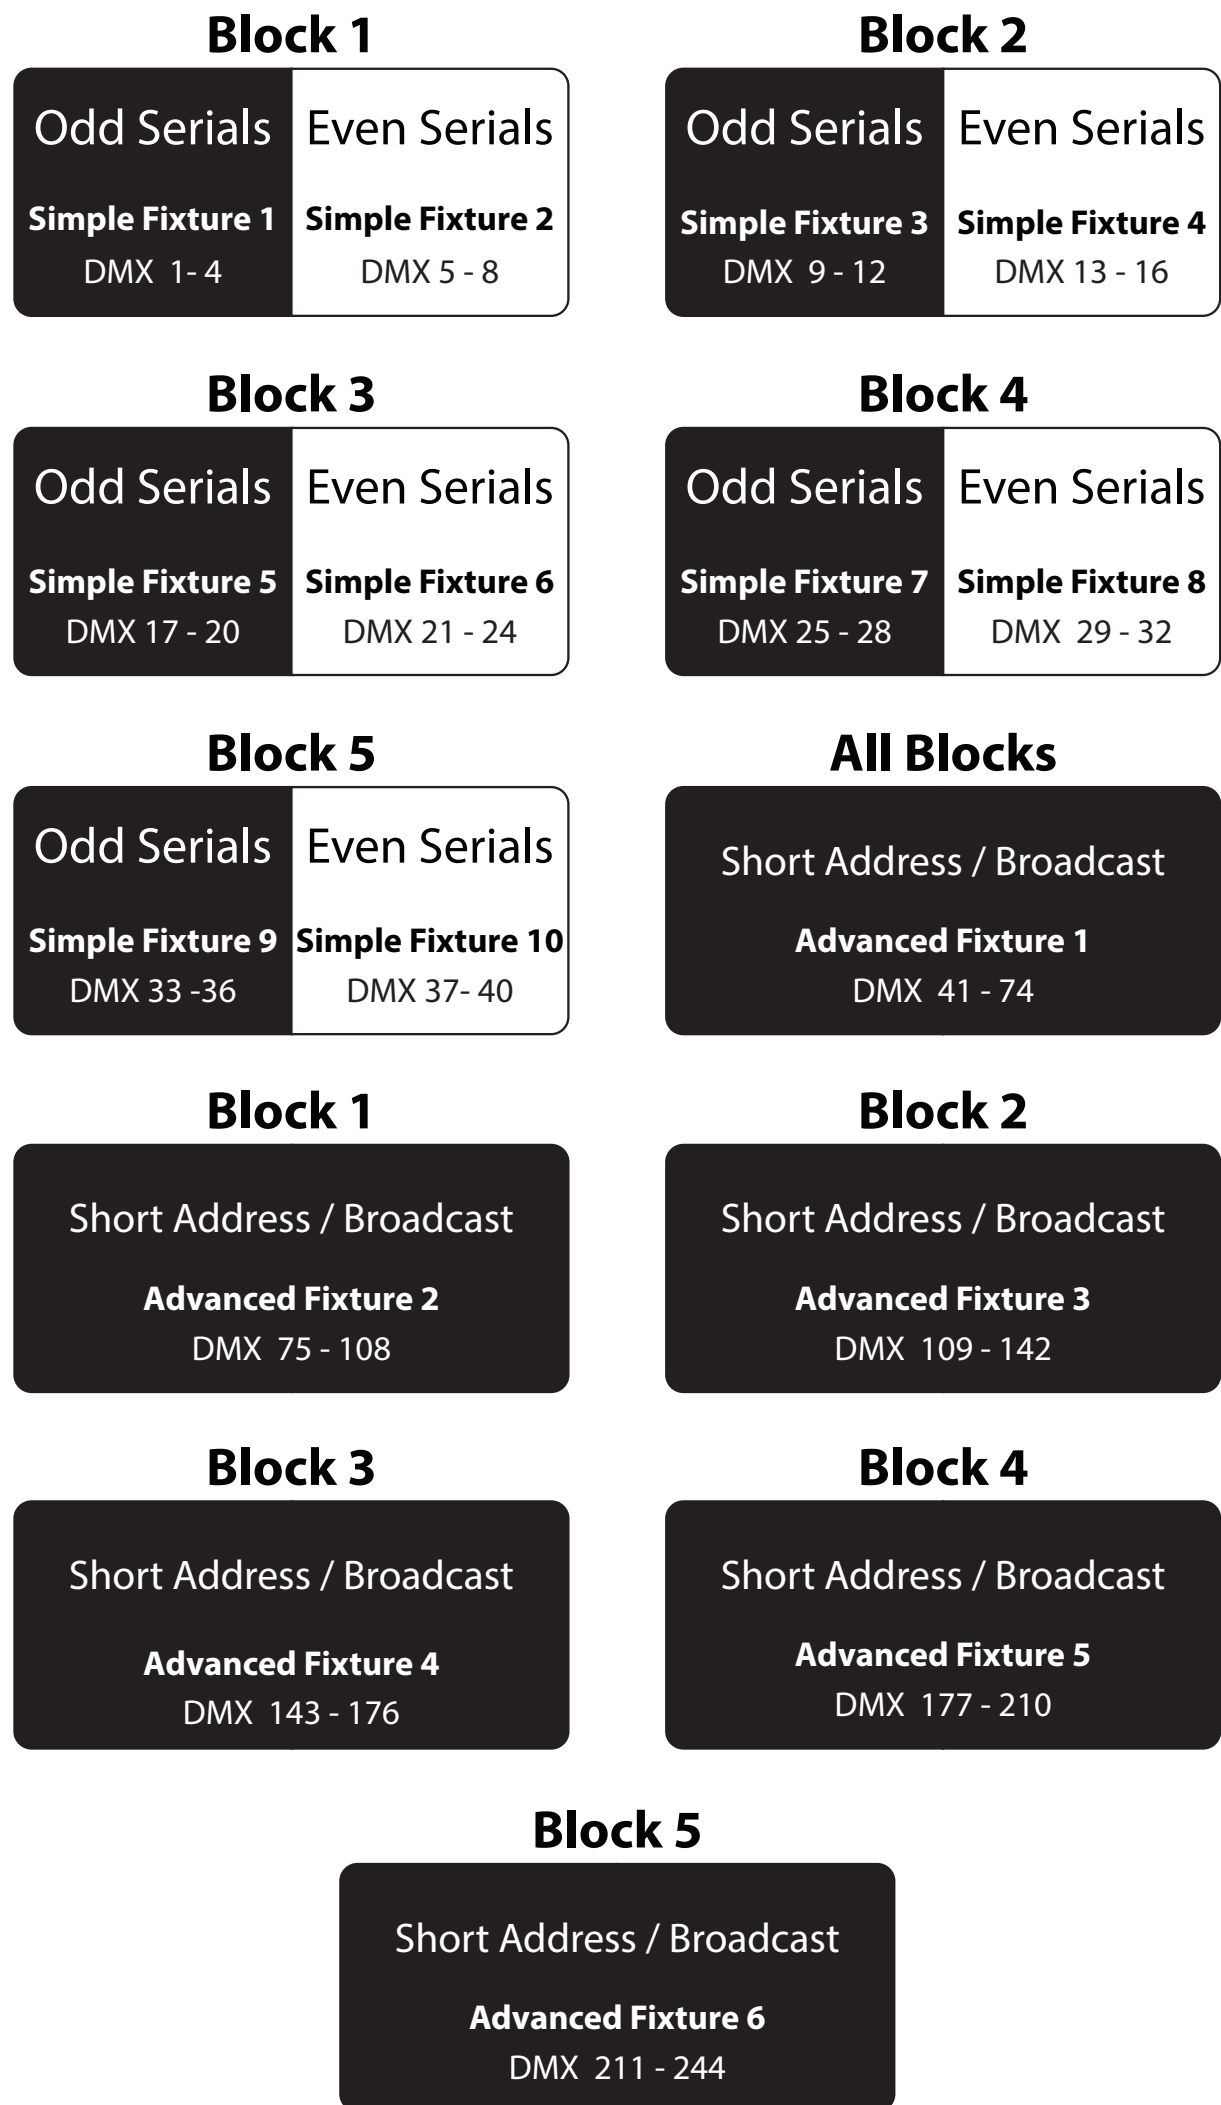

Figure 8. Five block Ghostband system DMX channel assignment.
Figure 8 on the facing page, shows how the DMX channels are assigned in a five block system with a starting address of one (1). Sixteen fixtures are required in this case because both Simple Fixture control and Advanced Fixture control are desired. Advanced Fixtures will always appear after the Simple Fixtures in the console patch. Blocks are divided into odds and evens when controlled by Simple Fixtures. Advanced Fixtures use Short addresses to control entire blocks.